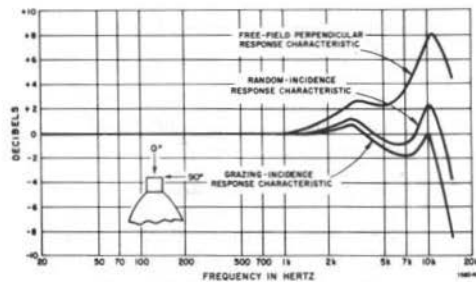

Figure 1-5. Typical response characteristics for the 1560-2133 Microphone.
1. A frequency characteristic (see Figure 1-5) carefully controlled in manufacture to give a flat response to sound waves of random incidence at frequencies from 5 Hz to 12.5 kHz.